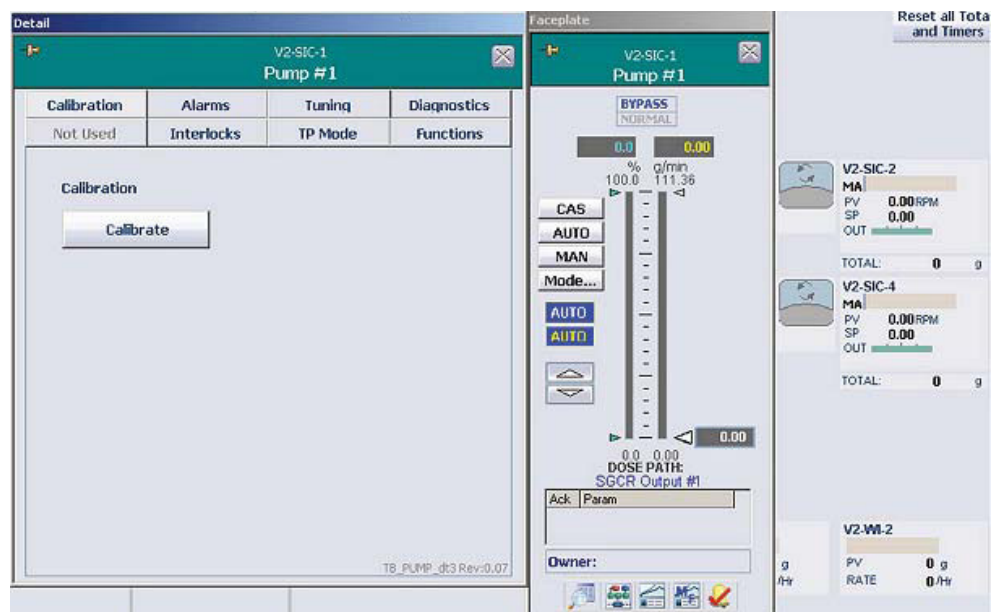

Figure 2.33. Pump #1 detail pop-up screen.
- Click **Detail** open the Detail pop-up screen (Figure 2.33). Click the “Calibration” tab if it is not already open.